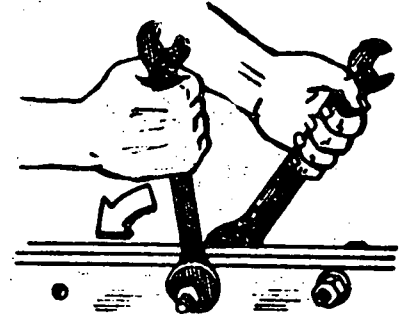

Fig. 1
- 1) To loosen nuts screwed to unfastened bolts, keep the bolts from turning by holding the bolt with a spanner (Fig. 1).